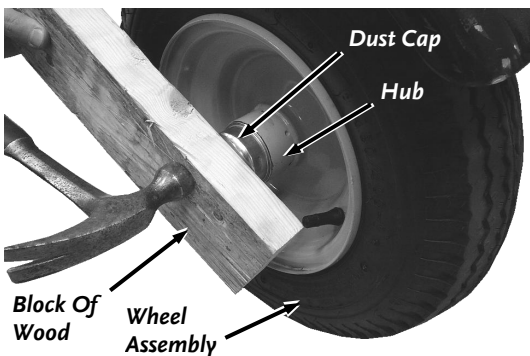

Figure 52
10. Place the Dust Cap onto the Wheel Assembly and secure it by placing a Block of wood over it and pounding lightly with a Hammer until it is flush against the lip of the Hub on the Wheel Assembly (Figure 52).